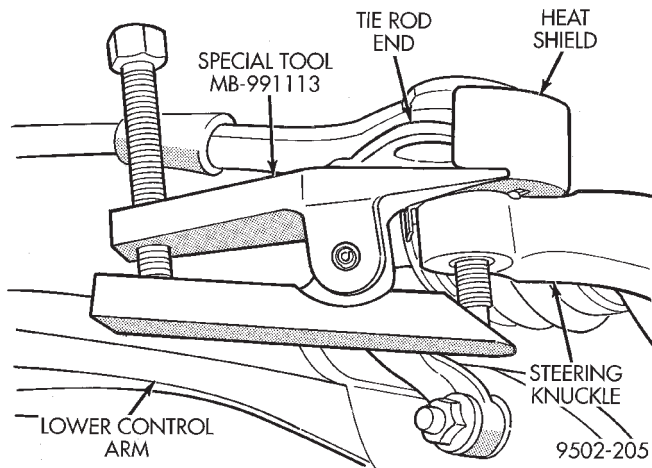

Fig. 29 Tie Rod End Removal From Steering Knuckle
(4) Remove the tie rod end from the steering knuckle using Remover, Special Tool MB-991113 (Fig. 29).